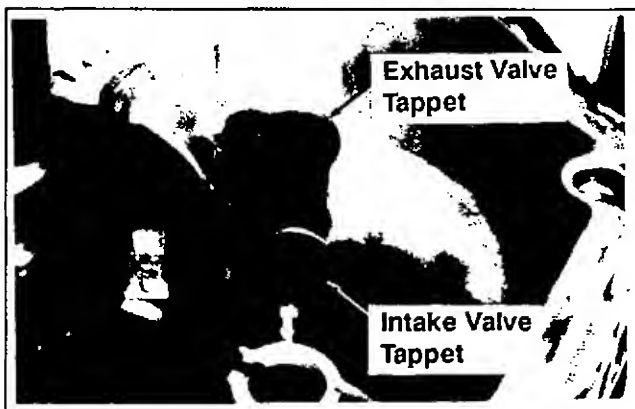

Figure 11-10. Installing Tappets.
2. Install the tappets into the appropriate intake or exhaust tappet bore in the crankcase. See Figure 11-10.